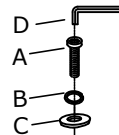

Figure 2
3. Attach the turnplate onto the seat, using Bolt(A). Spring washer(B), Flat washer(C) tighten with Allen wrench(D), as shown in Figure 2.